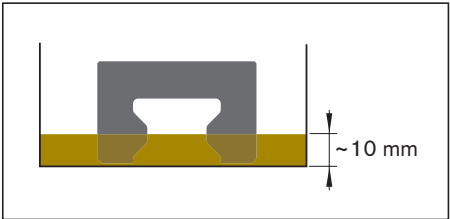

Fig. 2
Place the front lube unit in 10 mm of oil for about 36 hours (see figure 2).
- ▶ It is **not** possible to top up the size 20 front lube unit via the lube port (see figure 2).